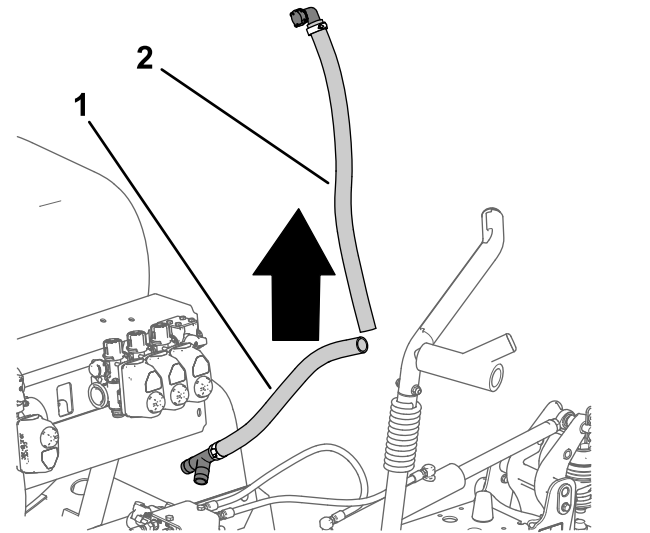

Figure 45
7. Remove the upper and lower bypass hoses from the machine (Figure 45).